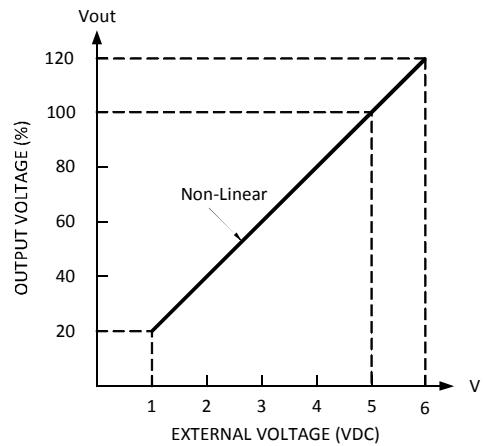

Fig 3.2
(3)Trimming of output voltage is allowable between 20~120%(Typ.) of the rated output voltage which is shown in Fig 3.2.